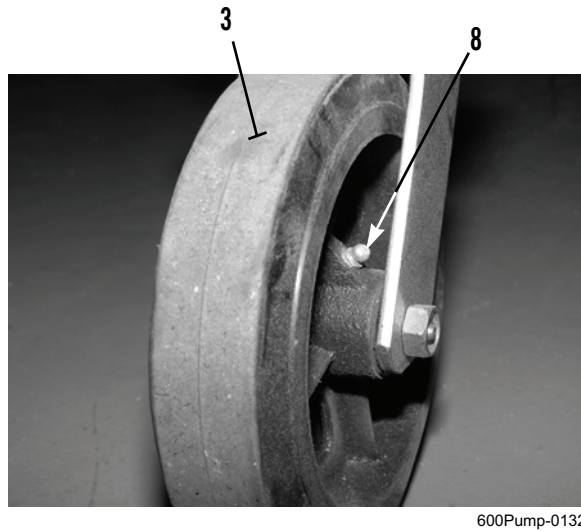

Figure 4. Caster Wheel Grease Fitting.
3. As required, apply GAA grease to two grease fittings (Figures 4 and 5, Item 8) on caster wheel (Figures 4 and 5, Item 3).